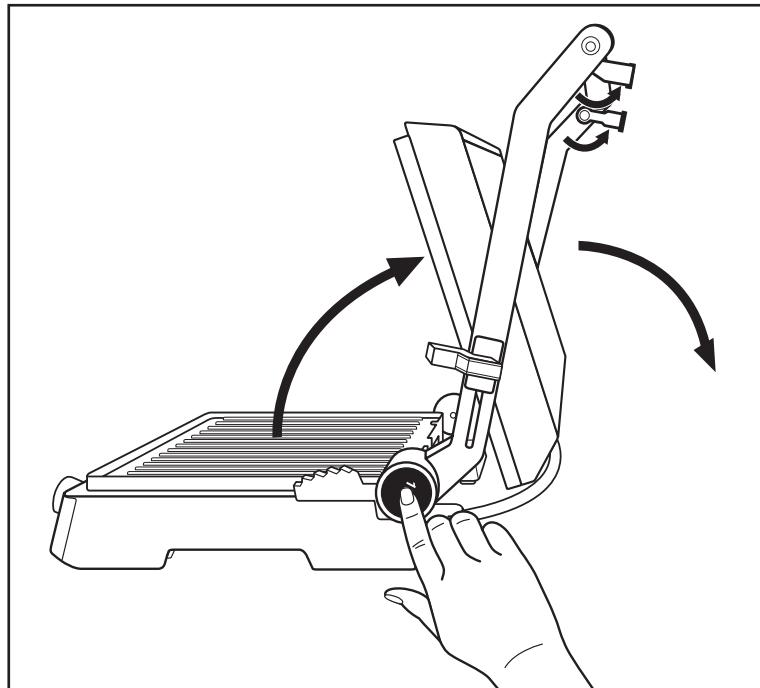

Fig.1
- 1) Fold out both support feet **1** (Fig.1).
- 2) Press the unlocking button 180° **3** (Fig.1) and open the appliance lid until both hotplates **10** can be used as a table grill.